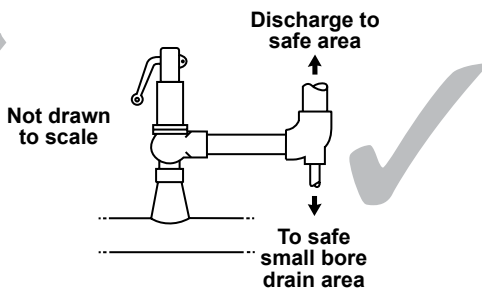

Fig. 5
- 6.8** Where the outlet pipework is directed upwards a small bore drain should be provided at the lowest point (Figure 5). This drain should be taken to a place where any discharge will not create a hazard or inconvenience.